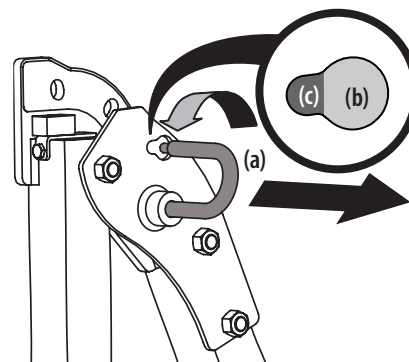

Figure 24
1. To change the position of the ROPS, pull slightly up/push forward on the upper ROPS to relieve any tension on the locking pin (a) and rotate the locking pin (a) from the LOCKED (b) position into the ADJUSTMENT (c) position. Repeat the procedure for the locking pin on the opposite side. See Figure 24.